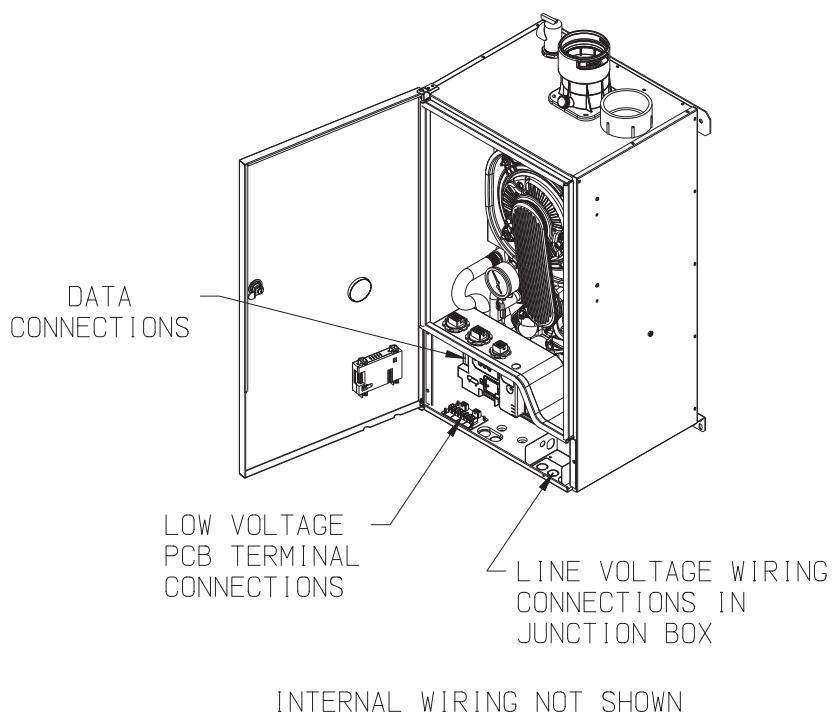

Figure 11.1: Location of High and Low Voltage Field Electrical Connections
Figure 11.1 shows the locations for making both high voltage and low voltage field connections.
- 1) Line Voltage (120 VAC) Field Connections – Leads for the line voltage connections are located in the junction box as shown in Figure 11.1. Provide a dedicated circuit for the boiler of 15A or greater. A service switch is recommended and is required by many local codes. Locate this switch in accordance with local codes or, in the absence of any, in a location where it can be safely accessed in an emergency involving the boiler. All 120VAC connections to the boiler itself are wire nut connections, except for the ground, which is a screw. The leads are color coded as follows: